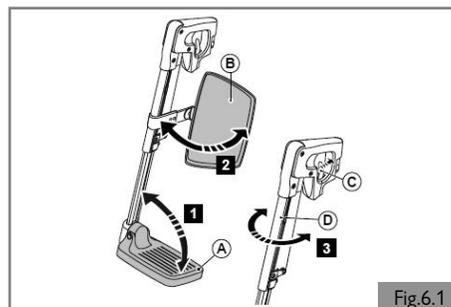

Fig.6.1
**Swing-away legrests (Fig. 6.1)**
1. Fold up the foot supports (A).
2. Swing the calf plates (B) to the side (if applicable).
3. If possible, push (C) to the rear and swing leg rests (D) to the side.